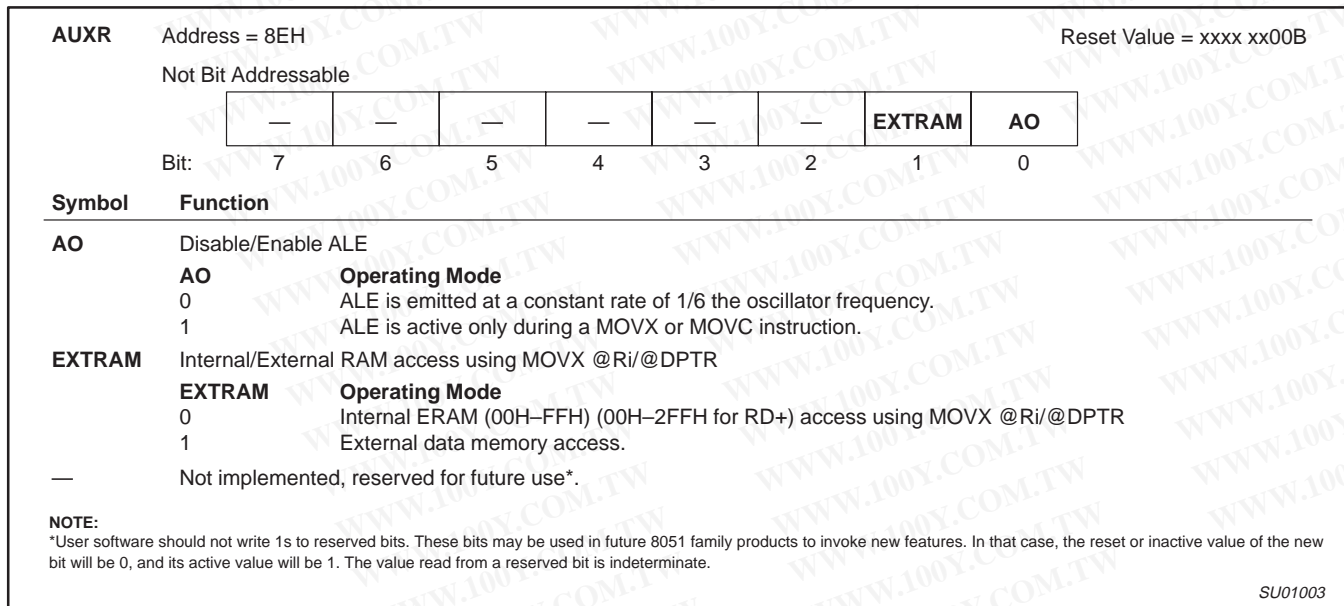

Figure 27. AUXR: Auxiliary Register (RX+ only)
4. The 256-bytes (768 for RD+) expanded RAM ((EXTRAM (256-bytes) 00H–FFH)) and ((EXTRAM (768-bytes for RD+) 00H – 2FFH)) are indirectly accessed by move external instruction, MOVX, and with the EXTRAM bit cleared, see Figure 27.